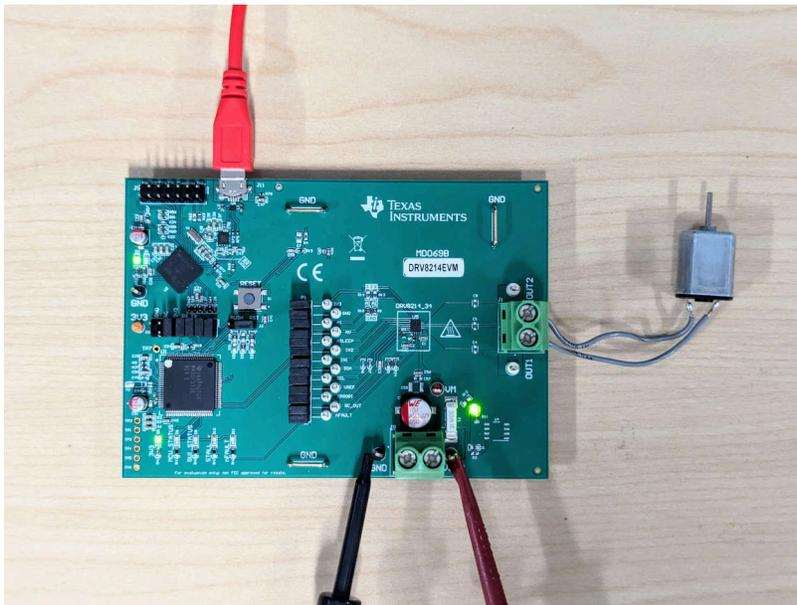

Figure 2-6. Hardware Setup
3. Turn ON power supply. D4 (VM) turns ON. See Figure 2-6 for setup image.
5. Set up is now complete. See Figure 2-6 for setup image.